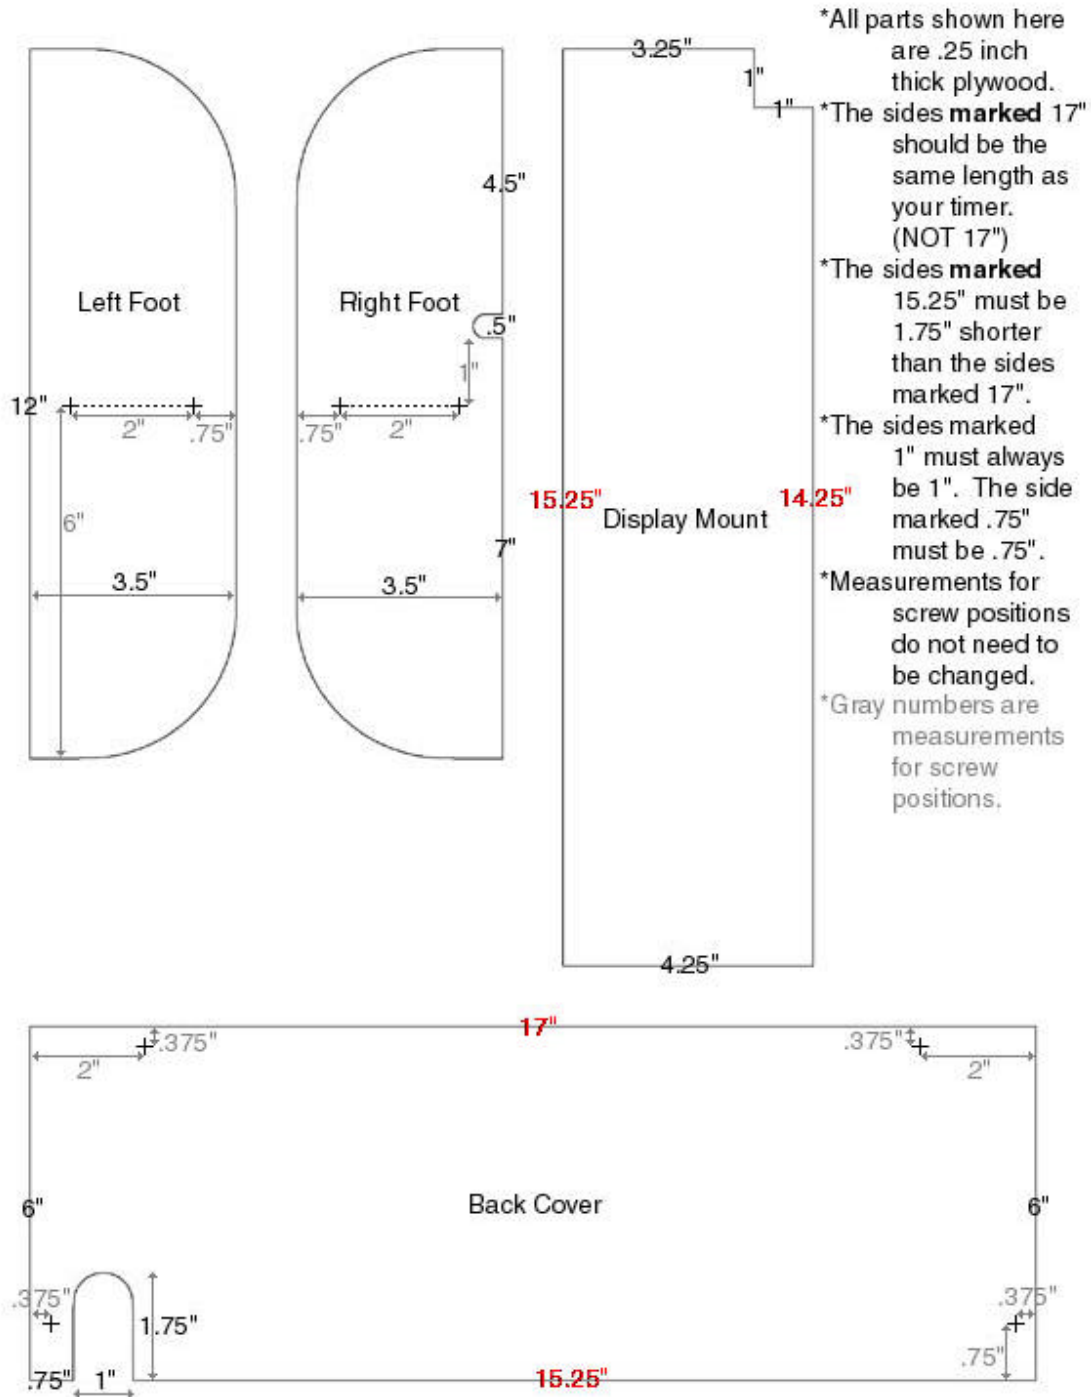

Figure 2
12. Cut a 1" x 1.75" notch that is .75" in from the edge of the Back Cover. For steps 7-12 refer to Figure 2.